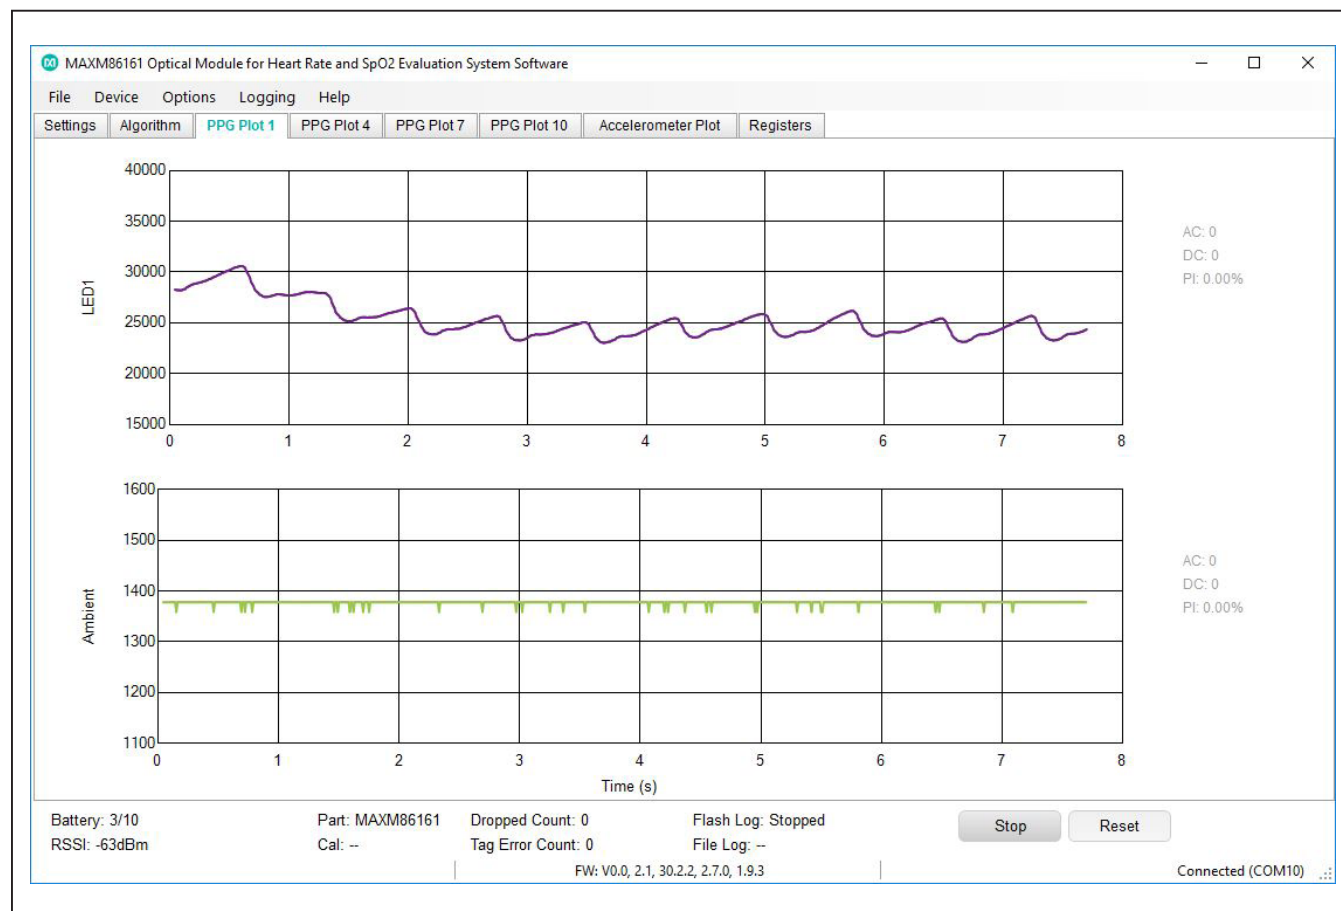
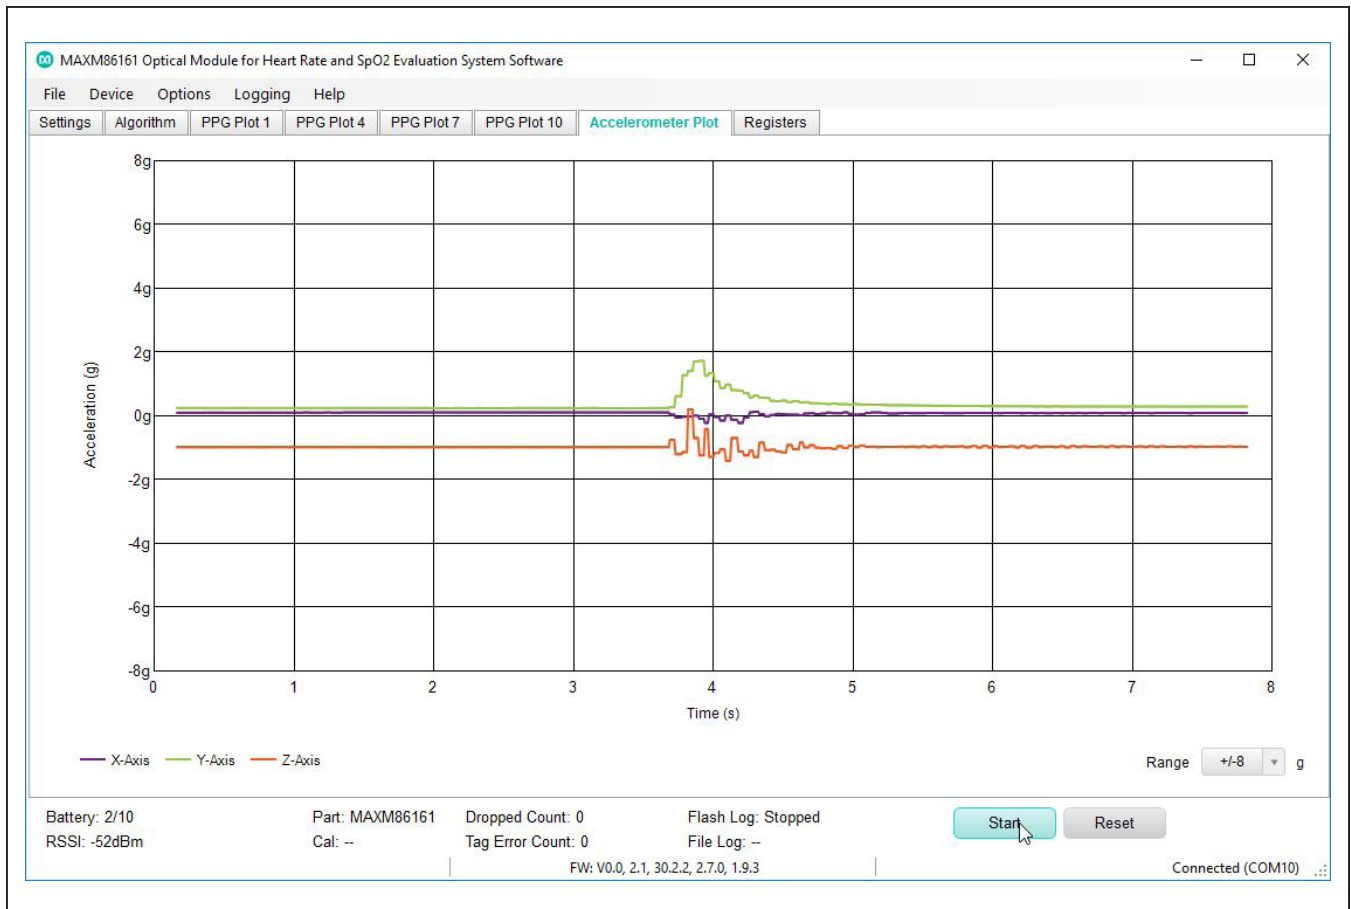

Figure 13. MAXM86161 EV System GUI (PPG Plots)
Figure 14. MAXM86161 EV System GUI (Accelerometer Plots)
- 10) Verify the LEDs on the Micro PCB illuminate and the plots on the GUI stream with data and algorithm output as shown in Figure 13 and Figure 14.